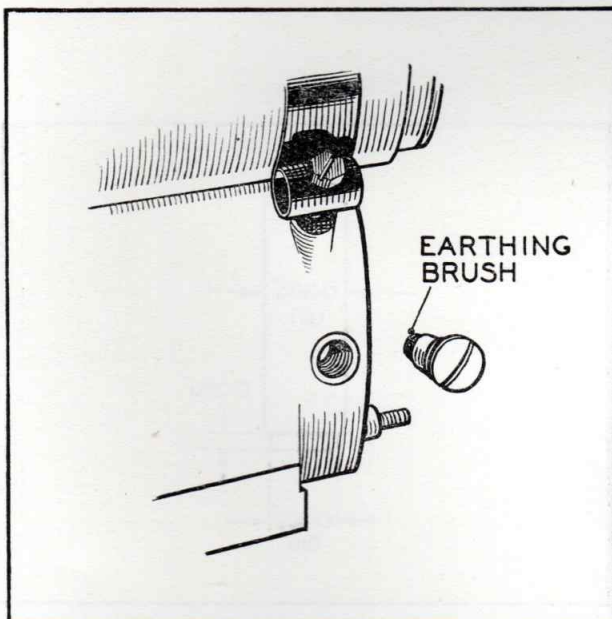

Fig. 4
- (iii) Remove the H.T. pick-up moulding or mouldings R, taking care to retain the gasket for use when reassembling. Unscrew and withdraw the earthing brush holder S, also shown in Fig. 4.